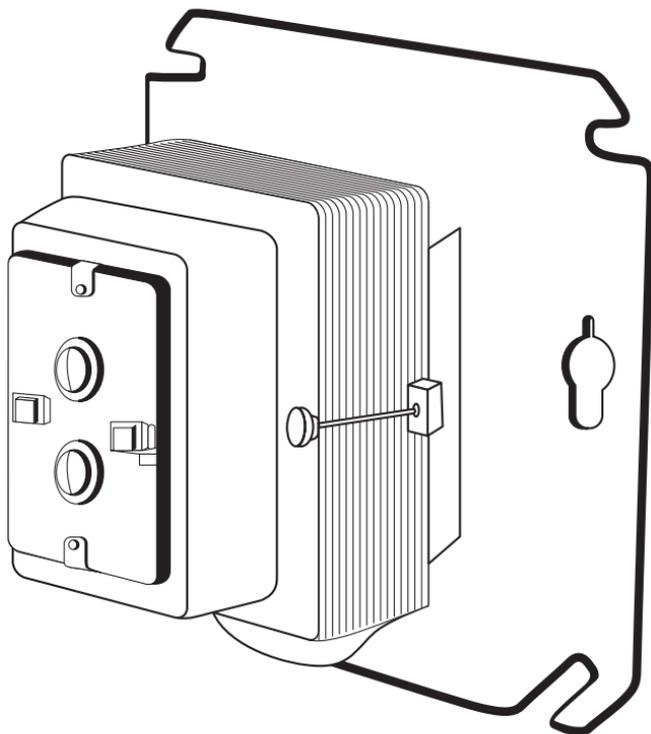

Figure 6-71 Honeywell transformer for a 24-volt system.
4. Check the specification section of the transformer for lead wire color-coding (see Figure 6-71).